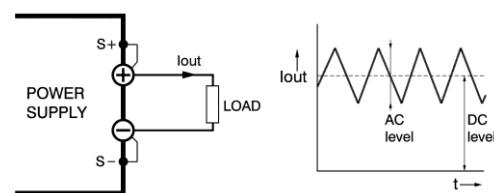

Figure 7.13: Pulsating load current.
- To avoid overheating the output capacitors, the AC component of the DC load current should be limited, see Figure 7.13.
- When using remote sensing on a pulsating load (for instance a DC-motor), use a capacitor in series with a resistor over the load see Figure 7.13. With this the AC-component caused by the pulsing of the load is filtered.